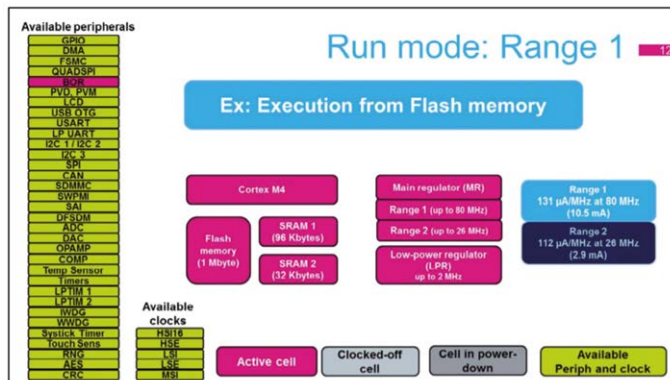

Figure 15.2: Run mode Range 1.
**Run mode:** two run modes are available: Range 1 and Range 2. Figure 15.2 shows the system overview at Range 1. This is the default mode after power-on or reset, where the clock runs at full speed of 80 MHz, consuming 131  $\mu$ A/MHz, all peripherals can be activated, all clocks can be enabled, the flash memory is enabled.